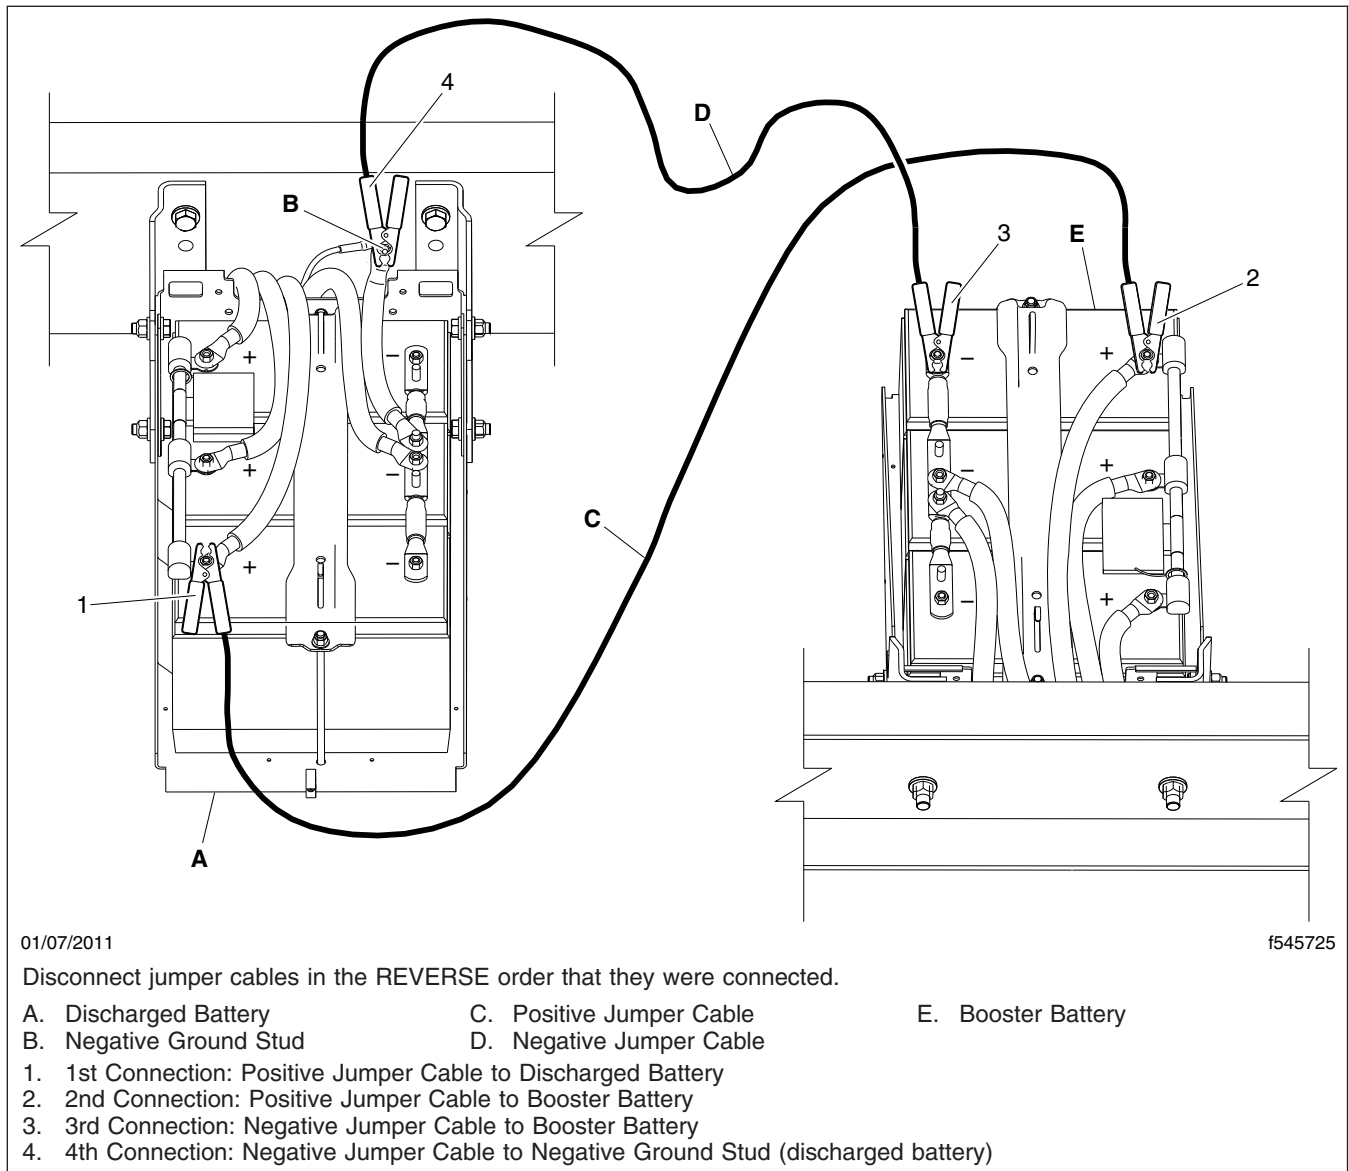

Fig. 24.5, Jumper Connections
3. Connect the positive (+) jumper cable to the positive terminal or jump start post on the discharged battery. See Fig. 24.5.